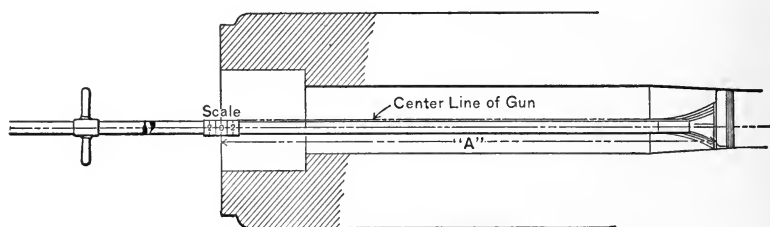

FIG. 29.
A. Until the zero of the brass ring on the rammer comes flush with the face of the breech-plate. (See Fig. 29.)